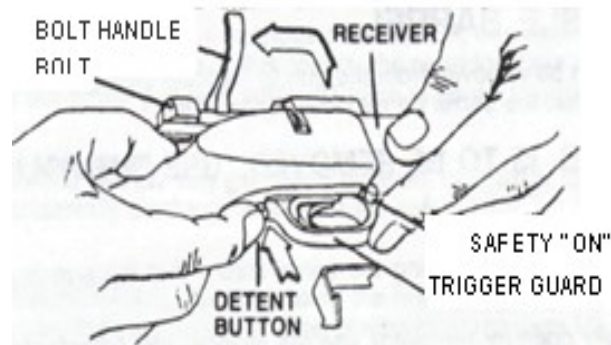

Figure 9
- (A) Put Safety "ON" (red band not visible)
- (B) The bolt will easily slide out of the receiver once the trigger housing is removed. Care should be taken to prevent the bolt from falling from the rifle while the trigger housing is removed.
- (C) Open bolt and bring it rearward until it reaches the stop position. (Bolt must be open to depress detent position).
- (D) With thumb or finger, depress the detent button.
- (E) Tap the trigger guard rearward and pull down to remove the trigger housing from the receiver. (See Figures 9 and 10)
- (F) The bolt may now be removed.